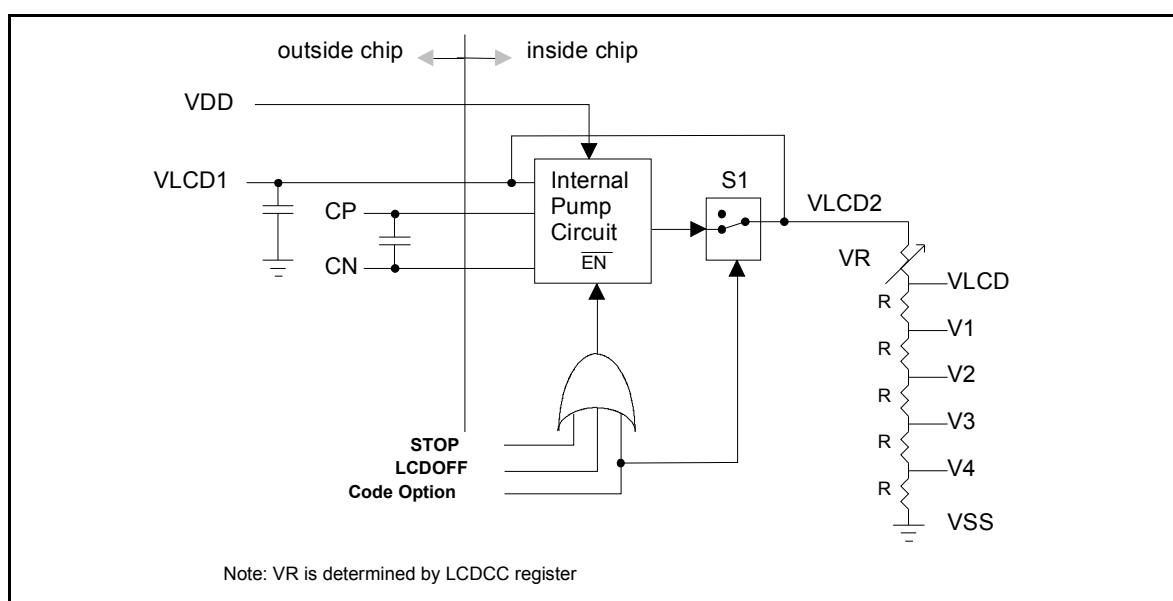

Figure 5-18 LCD power control circuit
LCD power (VLCD2) has two source, one is directly from the VLCD1 pin, another is from internal pump circuit. The LCD power source is selected by mask option. The pump circuit doubles the  $\mu\text{C}$  input voltage ( $V_{DD}$ ), **the power consumption in internal pump mode is more than directly input from VLCD1**. The LCD pump circuit only works in the  $V_{DD}$  range from 2.4V to 4.0V. If the operating voltage of  $V_{DD}$  is up 4.0V, the LCD power should come from the VLCD1 pin. The LCD contrast is adjustable by an internal variable resistor (VR). VLCD voltage is controlled by setting bit2, bit1 and bit0 of LCD contrast control register (LCDCC). LCDCC is determined by executing MOV **LCDCC, #i**. The Figure 5-18 shows the LDC power control as below: